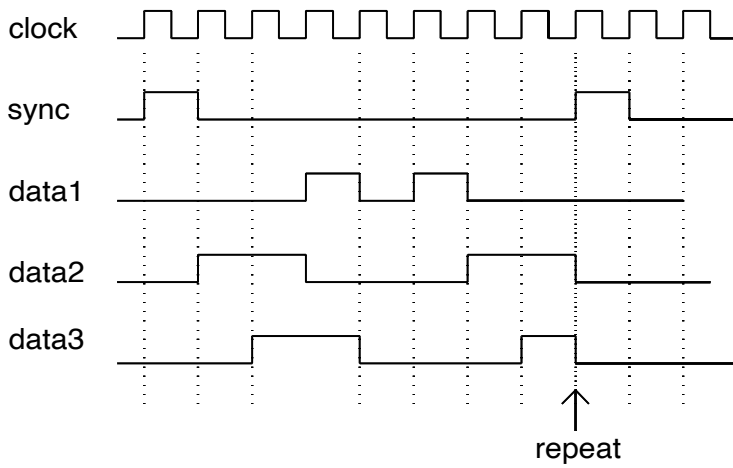
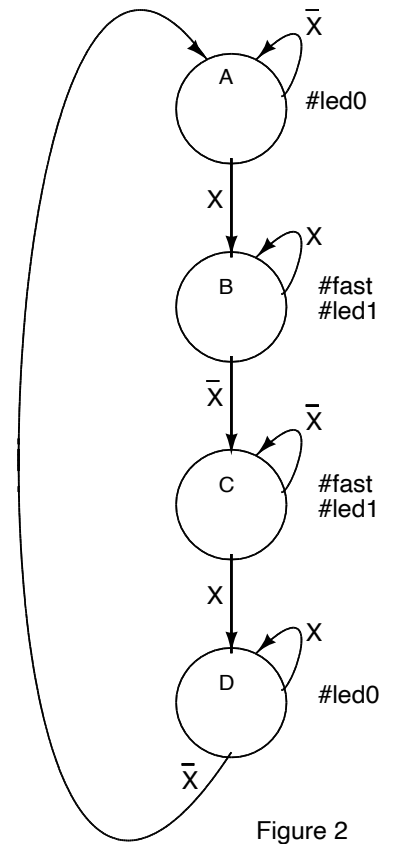

Figure 1
Figure 2
- Design a logic circuit that will create the set of waveforms shown in Figure1. The “clock” shown in Figure1 is a derived clock, not 50Mhz, whose rate can be selected as either 50Khz or 5Khz. Rate will be selected with a button in a push-on, push-off way that toggles between the two rates (see the example state diagram in Figure 2). For this lab, ignore potential switch bounce.